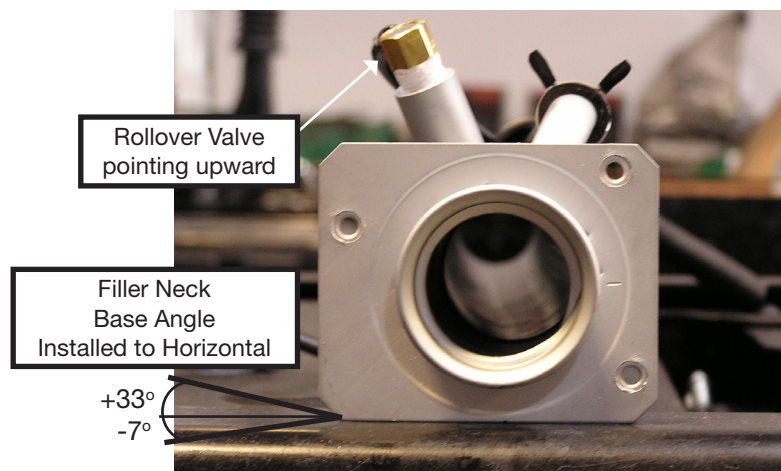

Figure 15.34.2
The fuel filler neck (5) must be installed with the proper orientation on the body. The neck should be installed with the roll-over valve pointing upward, with the bottom edge of the neck oriented parallel to the ground, plus 33 to minus 7 degrees. See **Figure 15.34.2** for the proper orientation.